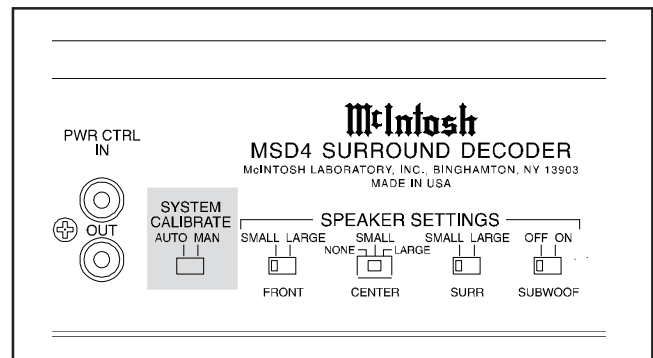

Figure 4
*The built-in calibration should be used primarily when the MSD4 is used in a stand alone system. When in the System Calibration mode, it is most convenient to make level adjustments from the listening area with the optional HR34/HR39/HR130 Remote Control. The MSD4 VOLUME control can also be used to adjust levels. A sound level pressure meter may be used to obtain a more accurate calibration. Refer to Figures 4 and 5 for the followings steps.*